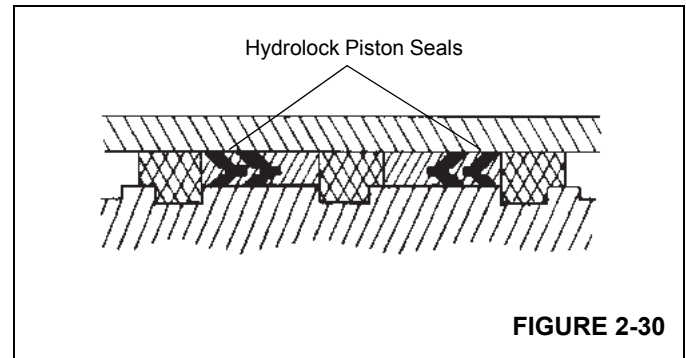

FIGURE 2-30
7. Install the replacement hydrolock seals on the outside of the piston. Make sure the "vees" on the two hydrolock seals point at each other (Figure 2-30).